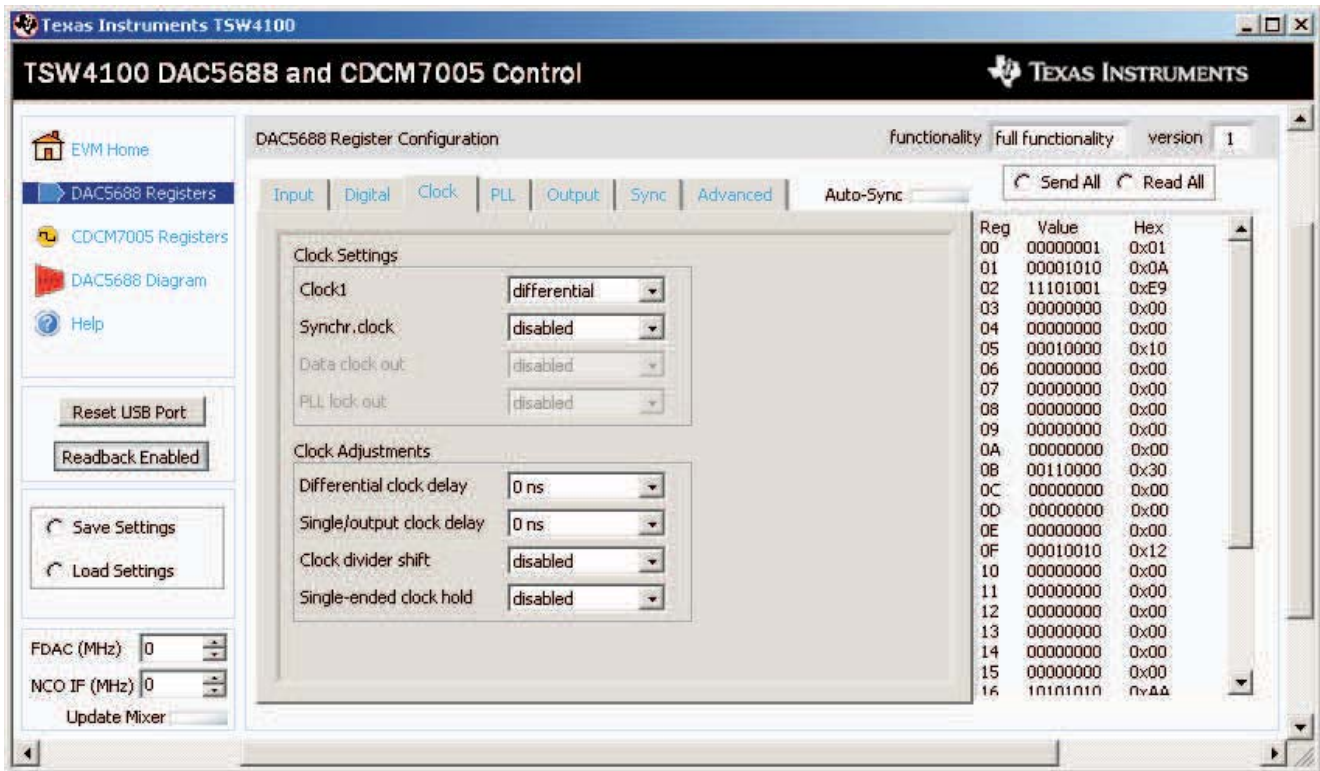

Figure 19. Clock Settings
4. Click on the *Clock* tab. The GUI display shall now look as shown in Figure 19. In this window, the user can change the Clock Settings and Clock Adjustments.